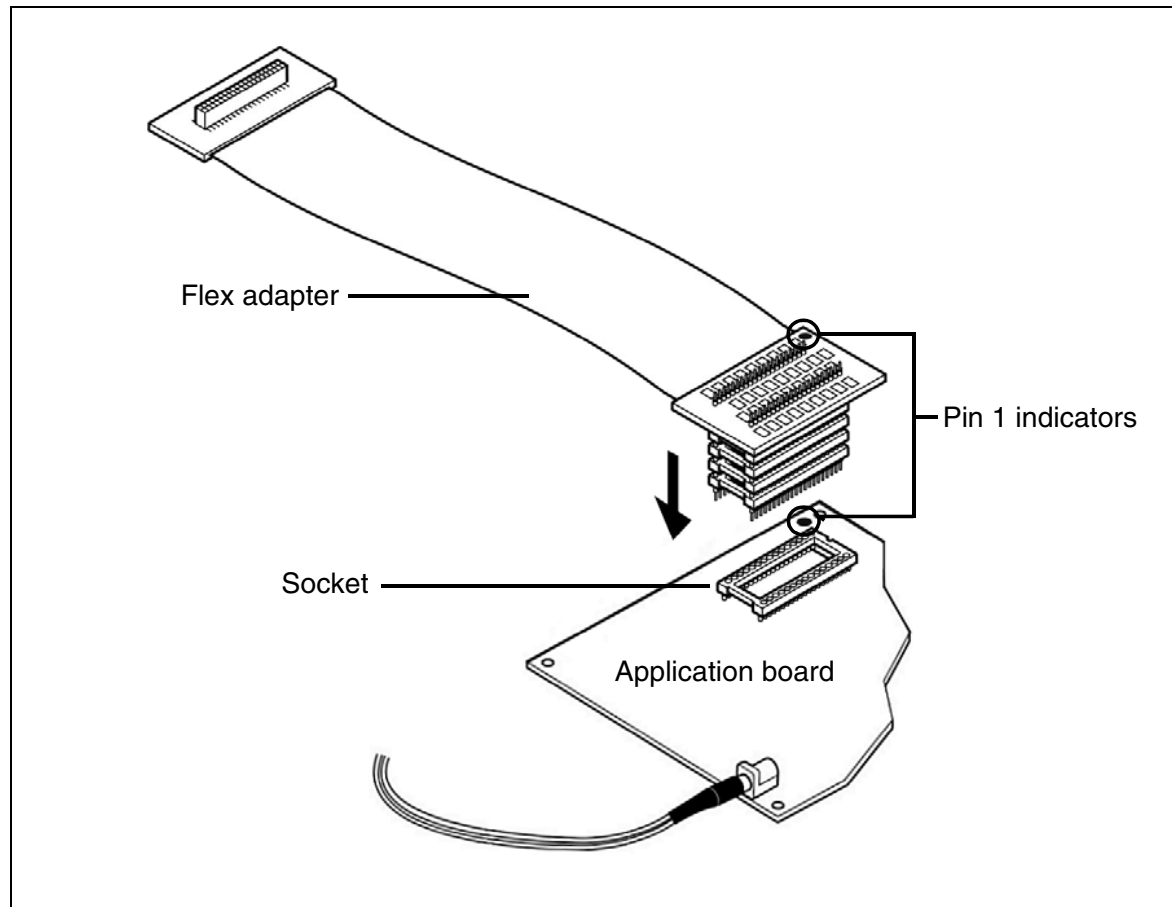

Figure 7: SDIP32 connection scheme
- 2 Align the pin 1 indicators on the SDIP32 connector of the DB510 flex adapter, then insert the SDIP32 end of the DB510 flex adapter into the socket on your application board as shown in *Figure 7*.